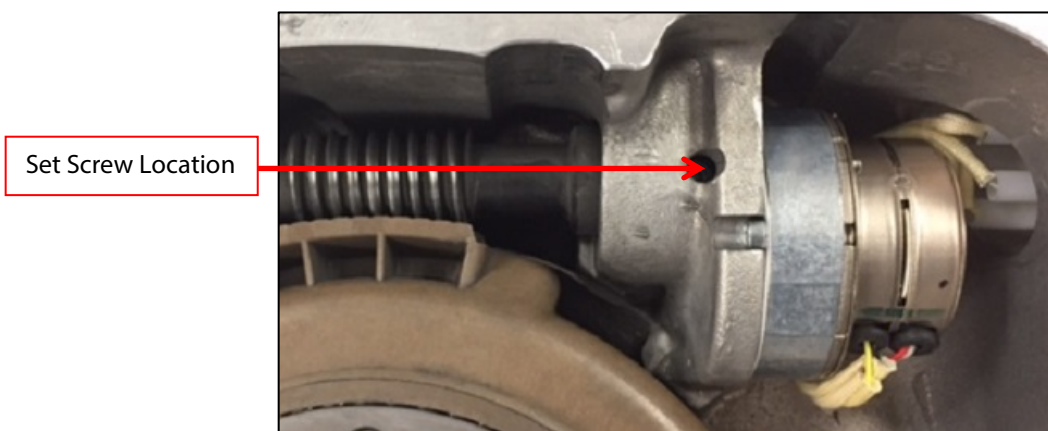

Figure 1. Set Screw Removal Location
4. Using a stepper motor driver, turn the worm shaft and Vane Drive assembly to position the motor shaft so that locking set screw is aligned with the hole shown in Figure 1. Use needle-nose pliers or similar tool to turn the worm gear if a stepper motor driver is not available.